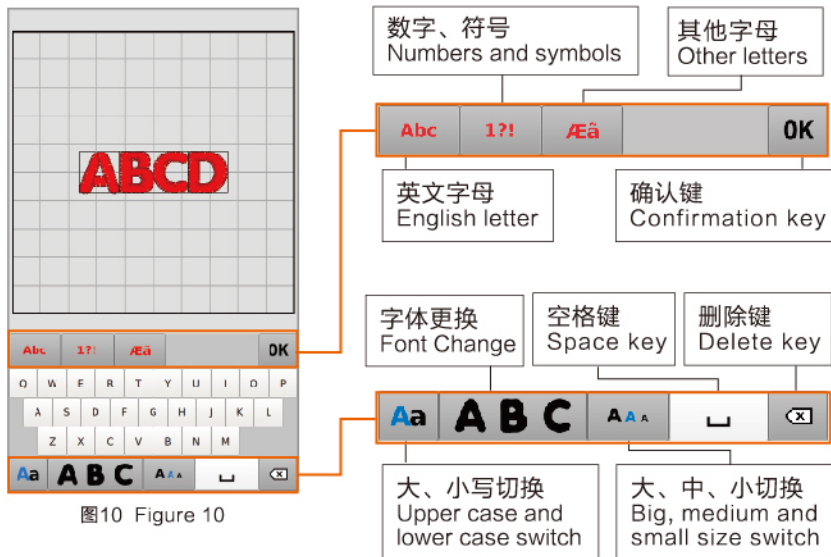

图10 Figure 10
- ② 点击八种字体的其中一个，进入图10界面，输入字母、数字、符号等，按确认
Click one of the eight fonts to enter the interface in Figure 10, enter letters, numbers, symbols, etc., and press confirmation.